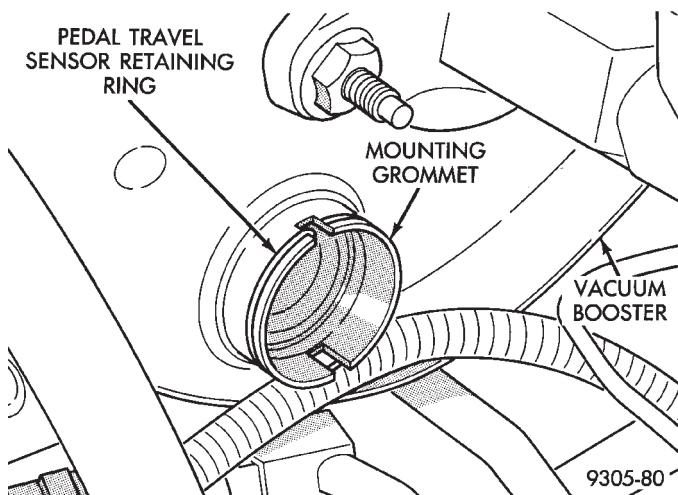

Fig. 4 Retaining Ring Mounted On Grommet
(1) Install pedal travel sensor, retaining ring on travel sensor mounting grommet in the vacuum booster (Fig. 4). Tab on retaining ring should be located in top notch of mounting grommet.